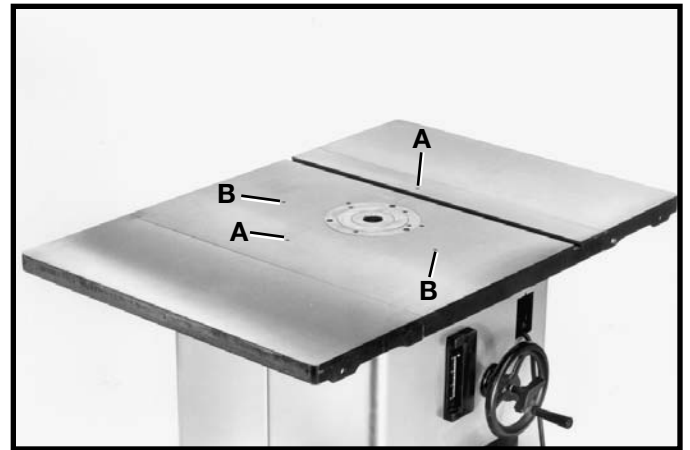
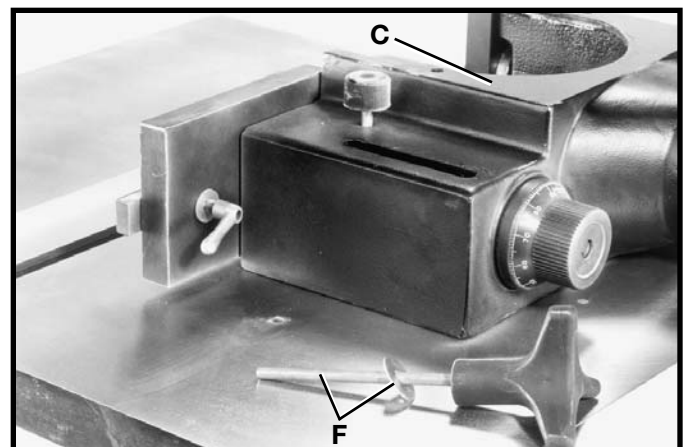

Fig. 14
Fig. 18
1. The fence on this shaper can be mounted parallel to the miter gage slot using two holes (B) Fig. 14, or 90 degrees to the miter slot by using two holes (A). The following illustrates mounting the fence parallel to the miter slot.
4. Locate the two fence locking handles and washers, one of which is shown at (F) Fig. 18, and fasten fence body (C) to one of the set of holes located on the shaper table illustrated in Fig. 14.